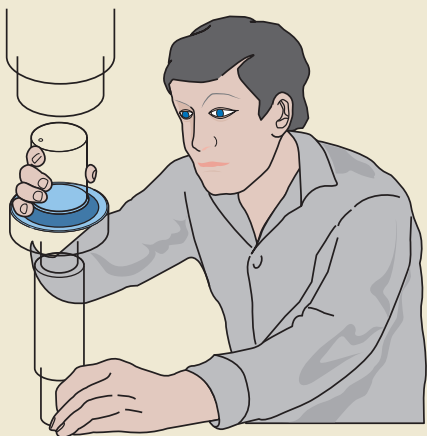

Fig. 5
- Never use a hammer or pin punch to drive a bearing in place, as either could damage the rings (→ **fig. 5**).